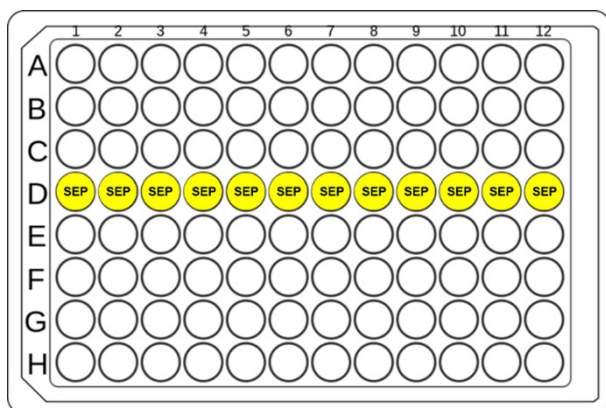

Figure 12: SEP Reagent Mix in Amplification Master Mix Plate.
10. Using a single-channel pipette, aliquot the **SEP Reagent Mix** evenly across all 12 wells of Row D of the 96-well **Amplification Master Mix Plate** (Figure 12). Seal the plate and briefly spin to collect all liquid in the bottom of the wells, and place on ice. Ensure there are no bubbles present in the bottom of the wells.